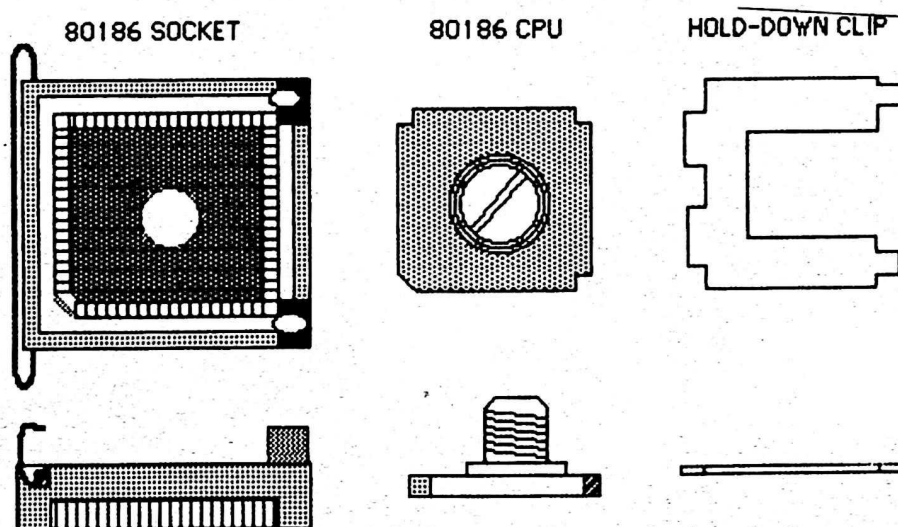

Figure 4-3. 80186 Assembly Drawing
- (1) Grasp the heat sink firmly by the edges and turn counterclockwise to remove it.
- (2) Using a small, flat-blade screwdriver, pry the spring wire away from the two tabs on the hold-down clip. Refer to 80186 Socket Assembly Drawing, Figure 4-3.
- (3) Lift the hold-down clip away from the CPU chip. Note the orientation of the CPU.
- (4) Grasp the heat sink center post and lift straight up.
- (5) Clean the contacts of the socket and CPU chip with a lint-free cloth and alcohol.
- (6) Replace the CPU chip in the socket. Be sure to orient the chip properly by observing the notch on one corner.
- (7) Replace the hold-down clip with the open side away from the socket's spring wire.
- (8) Press down on the hold-down clip and pry the socket's spring wire over the hold-down clip's two tabs.
- (9) Re-thread the heat sink onto the heat sink post.